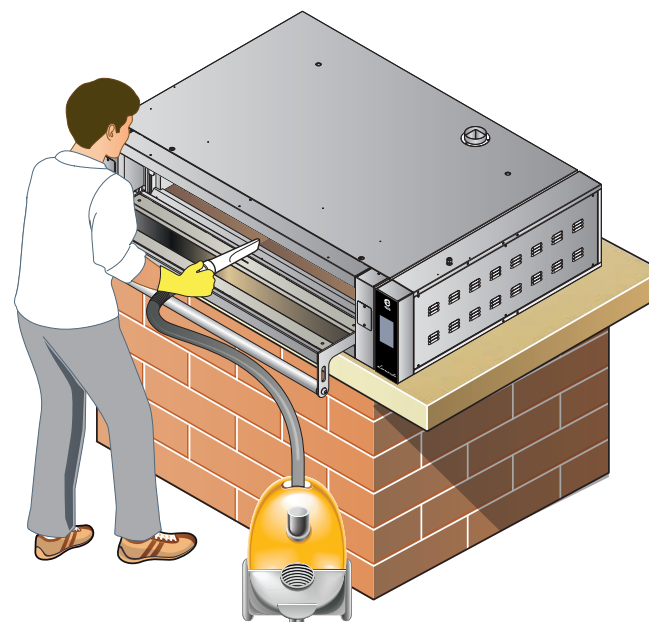

Fig.35.
- Ⓔ when the oven is cold, suck any burnt residue with an ash vacuum cleaner ► Fig.35.